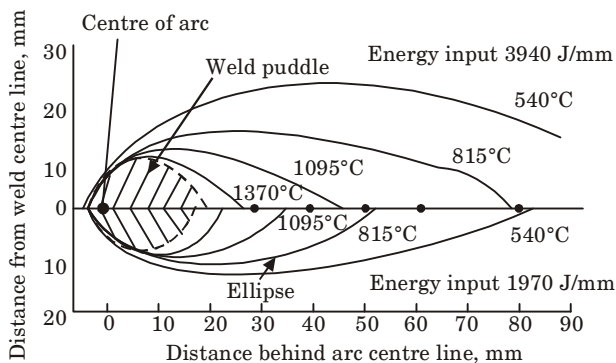

Fig. 1.13.1.
1. Isotherms in the upper portion of Fig. 1.13.1 show the temperature distribution for a weld made at 1.3 mm/sec with an energy input of 3940 J/mm for an initial plate temperature of 27 °C.
3. The arc current, voltage and preheat temperature is same in both cases. It can be observed from Fig. 1.13.1 :